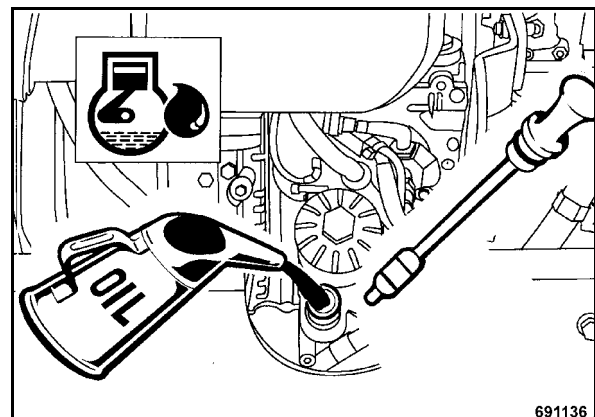

Fig. 64
- Fill in fresh engine oil through the filler opening (Fig. 64).